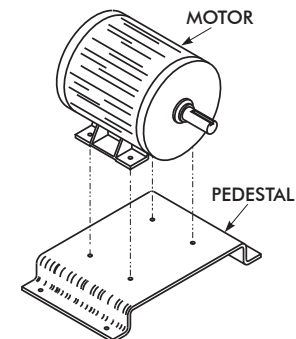

FIGURE 4
4. Position and attach with the appropriate fasteners the pedestal (if required) to the motor as shown in Figure 4.